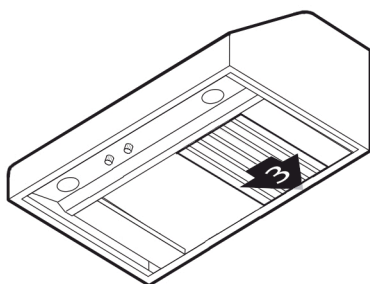

FIGURE 14: INSTALL THE STAINLESS STEEL BAFFLES – PART C
- c. Slide the baffle filter backward clearing the catch and rest securely on back edge of hood (FIGURE 14).